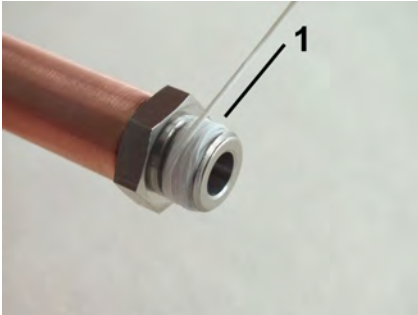

Fig. 9: Apply sealing thread
2. Apply sealing thread (Fig. 9/1) to the napped area in the threaded direction. Observe the quantity recommended by the sealant manufacturer.